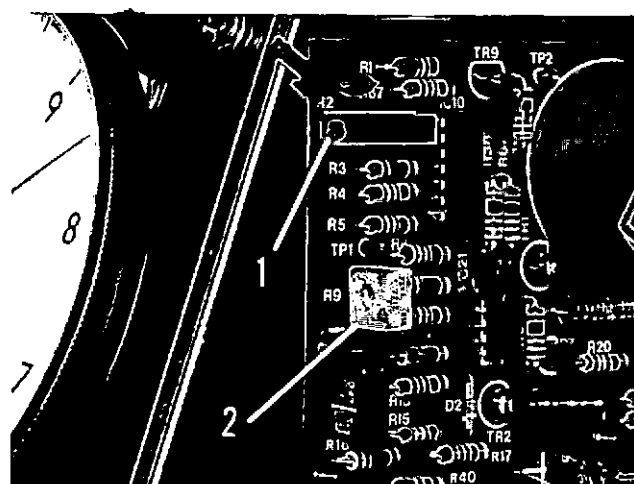

Fig. 4-25. Temperature control circuit board
2. If the stabilized temperature is other than 104° F [40° C] rotate the potentiometer screw (1, Fig. 4-25) as required to increase or decrease the indicated temperature. Rotate the screw clockwise to increase, or counterclockwise to decrease the temperature. Allow 15 minutes for the temperature to stabilize.
3. Adjust the potentiometer (2, Fig. 4-25) to center green band on temperature display.